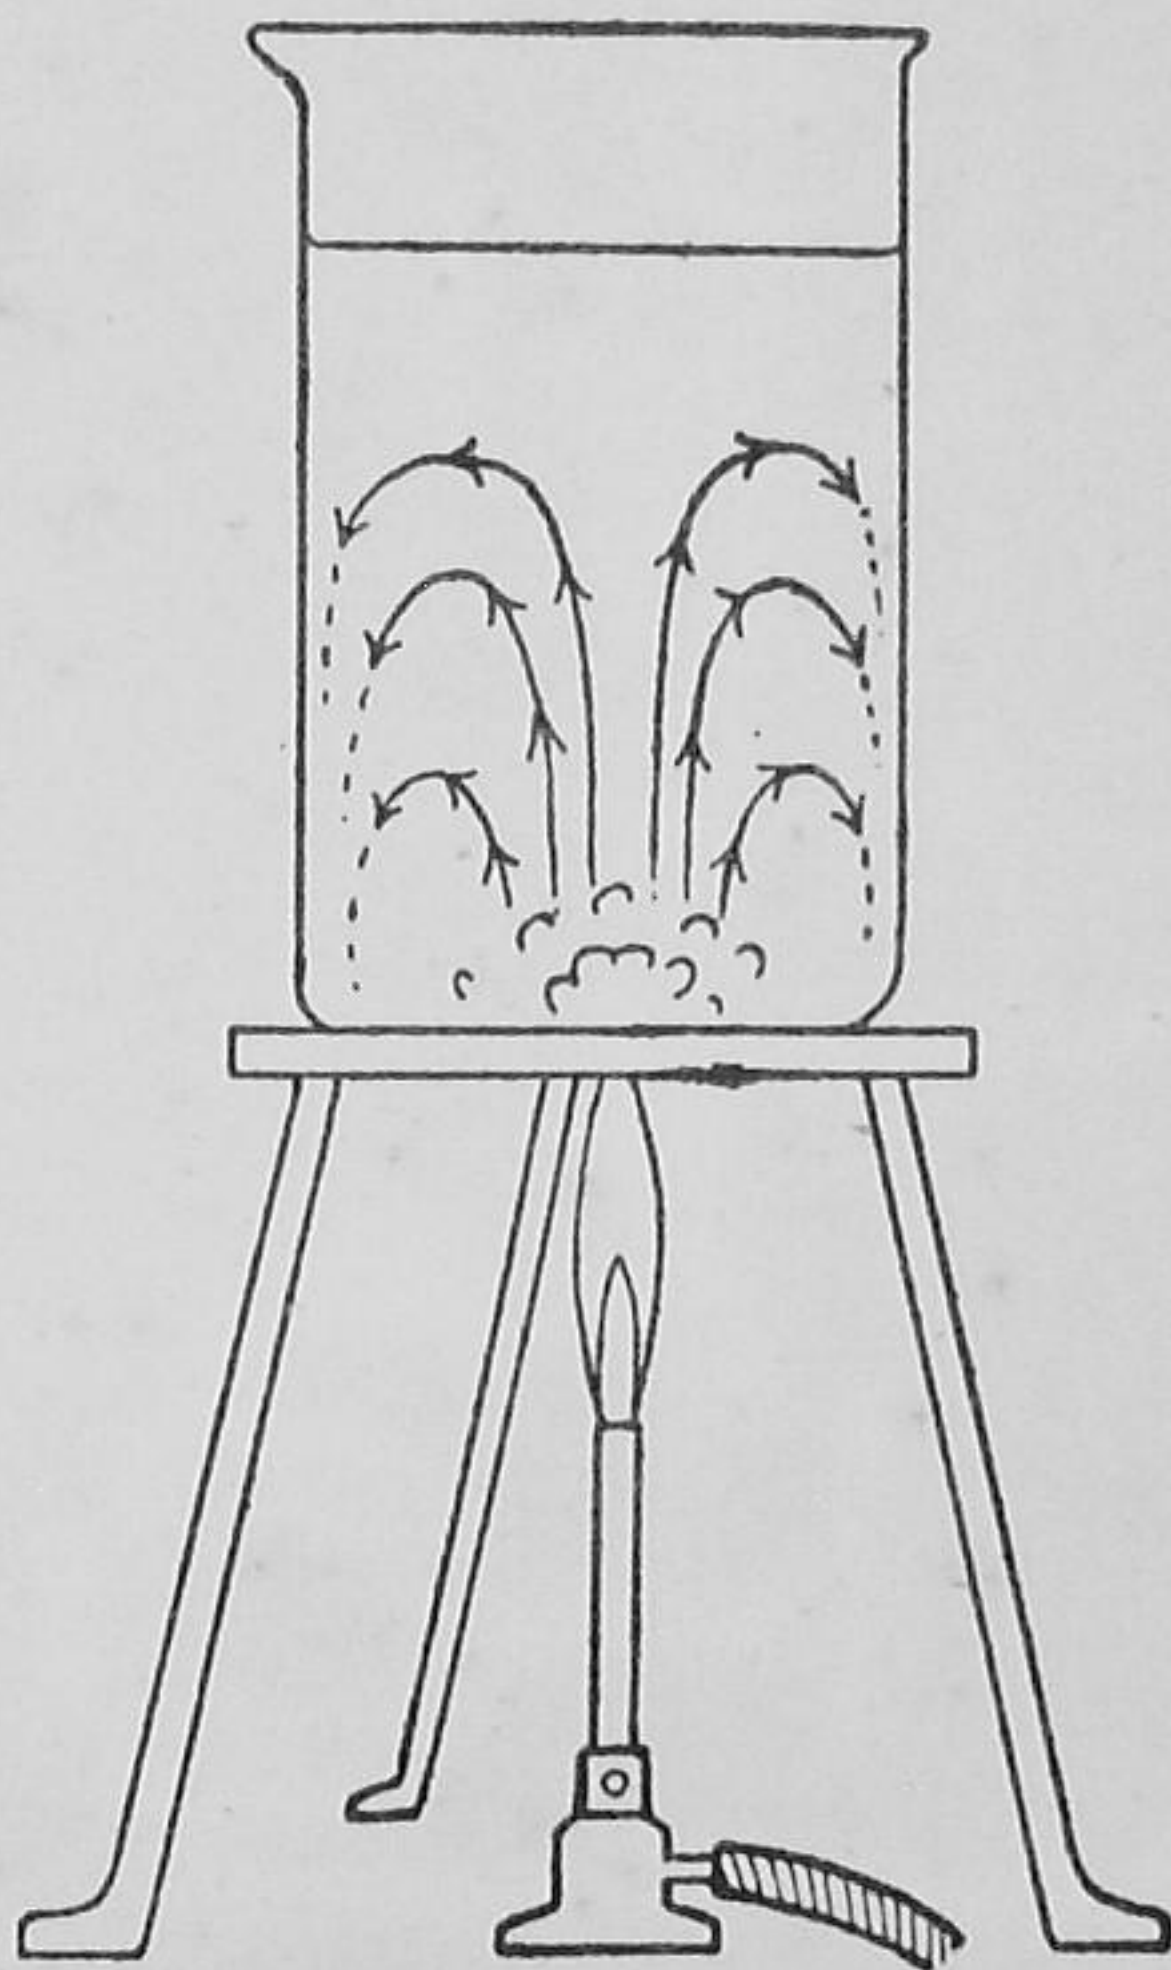

Fig. 10. CONVECTION CURRENTS IN WATER
(2) **Convection.**—Convection is the method of heat transmission which consists in the *movement of particles that carry heat from one place to another*. It is only possible, therefore, in liquids and gases. In water, the liquid near the source of the heat is warmed, expands, becomes lighter and rises, while the colder and heavier water takes its place (Fig. 10). In this way the whole mass of water is eventually heated. Such a stream of moving particles is called a **convection current**.